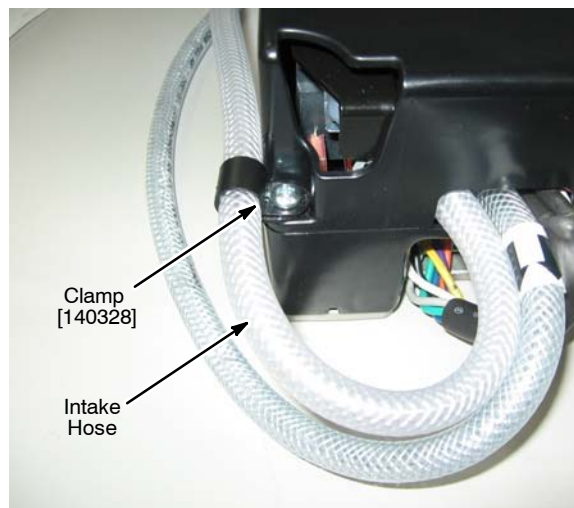

Fig. 15
- Secure the module's intake hose with clamp [p/n 140328] as shown (Figure 15).